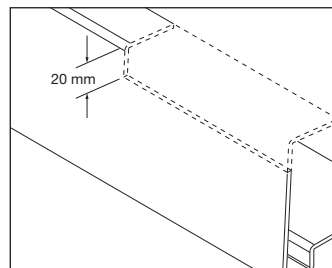

Fig. 3 – Cut away section at ridge
- 3 At the ridge apex, allow a 10mm expansion gap at the mitred joint between the verge extrusions. Cut away the top flange and 20mm depth of the side wall (Fig. 3) to accommodate the ridge tile (and dry ridge batten section, if appropriate).
- 4 The horizontal flange of the extrusion is pushed between the top of the wall (or gable ladder) and tiling battens along its whole length. Ensure the bottom end lines up with the leading edge of the eaves tiling course (Fig. 3).